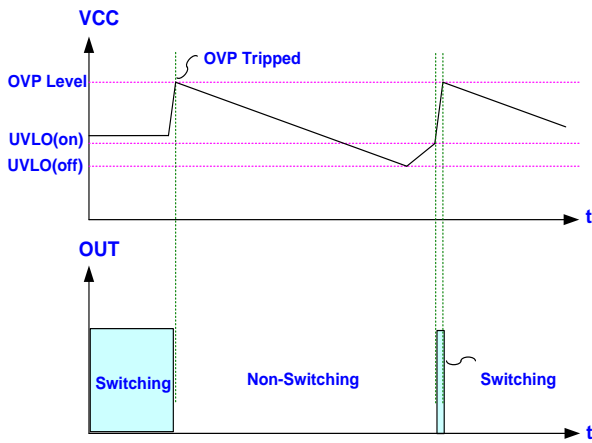

Fig. 18
LD9162C is implemented with OVP function through VCC. As the VCC voltage rises over the OVP threshold voltage, the output drive circuit will be shut off simultaneously thus to stop the switching of the power MOS until the next UVLO (ON) arrives. The VCC OVP function of LD9162C is an auto-recovery type protection. The Fig. 18 shows its operation. That is, if the OVP condition is removed, it will resume to normal output voltage and VCC level in normal condition.